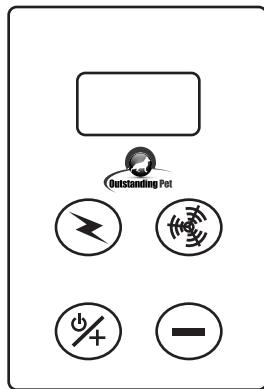

figure 7 – Remote Transmitter
1. Hold the  button (*figure 7*) for three seconds to power up the Remote Transmitter (the LCD will turn on to indicate a successful power up).